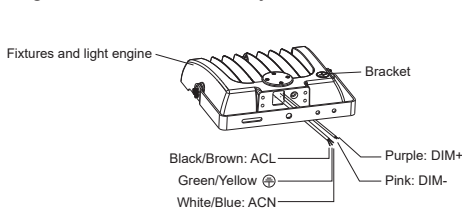

figure 3.3
Step 2: Match the wire connection according to the correct connections (match to positive wire, negative wire, and ground wire). (figure 3.3)